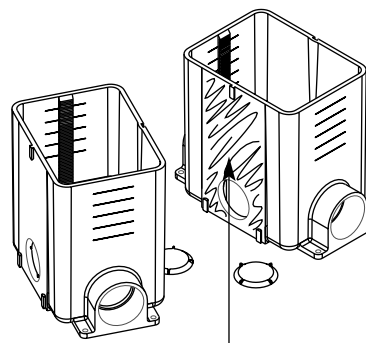
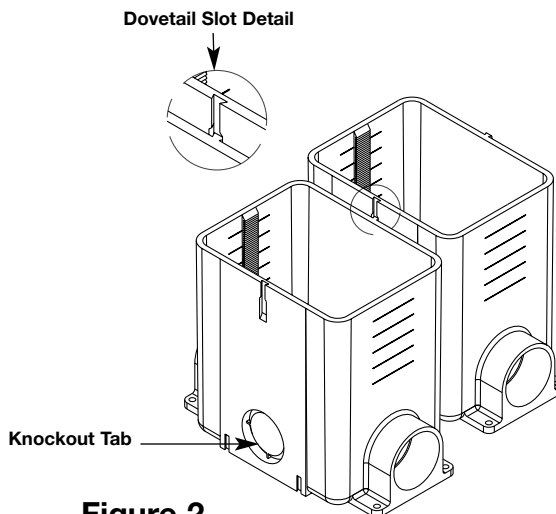

Figure 1
Figure 2
2. For multiple compartment installations which require pass-through between mating modules, you must remove the knockout section on adjacent surfaces. To do this, break away with a hammer making sure you remove knockouts which will be facing one another after linking the assembly (see Figure 1). **Knockout tabs are intended for passage between boxes only. They are not designed for the attachment of conduit fittings.**
3. To assemble the modular units, first apply solvent cement around the flat mating surfaces of the adjacent walls and “dovetail” slots (see Figure 1). Engage the “dovetails” and slide the units together until seated (see Figure 2).